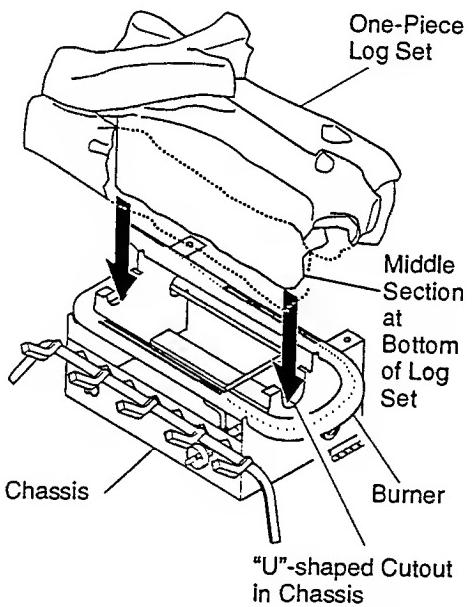

Figure 20 - Installing Golden Oak or Birch One-Piece Log Set
1. Place one-piece log set on grate to fit as illustrated in Figure 20. Make sure middle section at bottom of log set is seated into "U"-shaped cutout in center of chassis (see Figure 20). Note: 36" model has more features but fits on the chassis the same. Log will fit securely on chassis. **IMPORTANT:** Make sure log does not cover any burner parts.